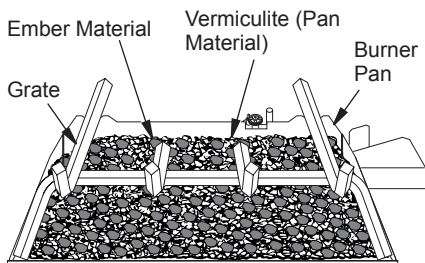

Figure 20 - Ember Material on Surface of Pan Material (Vermiculite) (P325/VP325 Models Shown)
3. Remove the ember material from the bag and flatten small amounts into quarter size pieces and lay on top of the surface of the pan material (see Figure 20, page 15).